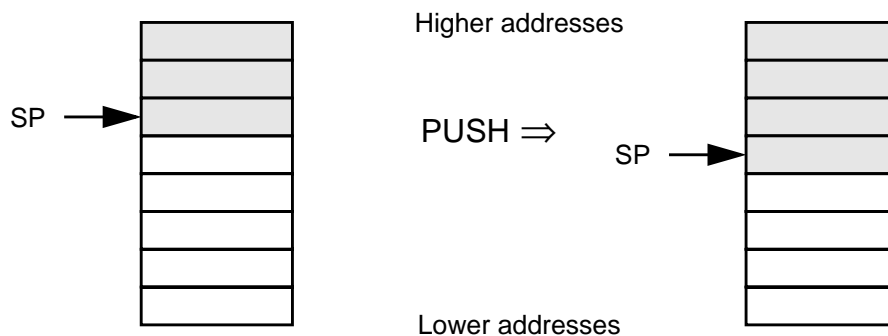

Figure 7: Stack push: before and after (Full Descending stack model)
It is recommended (though not compulsory) that the stack model known as “full descending” is used (figure 7). In this model the Stack Pointer (SP) contains the address of the last item pushed, and subsequent ‘pushes’ store data in lower-numbered addresses.